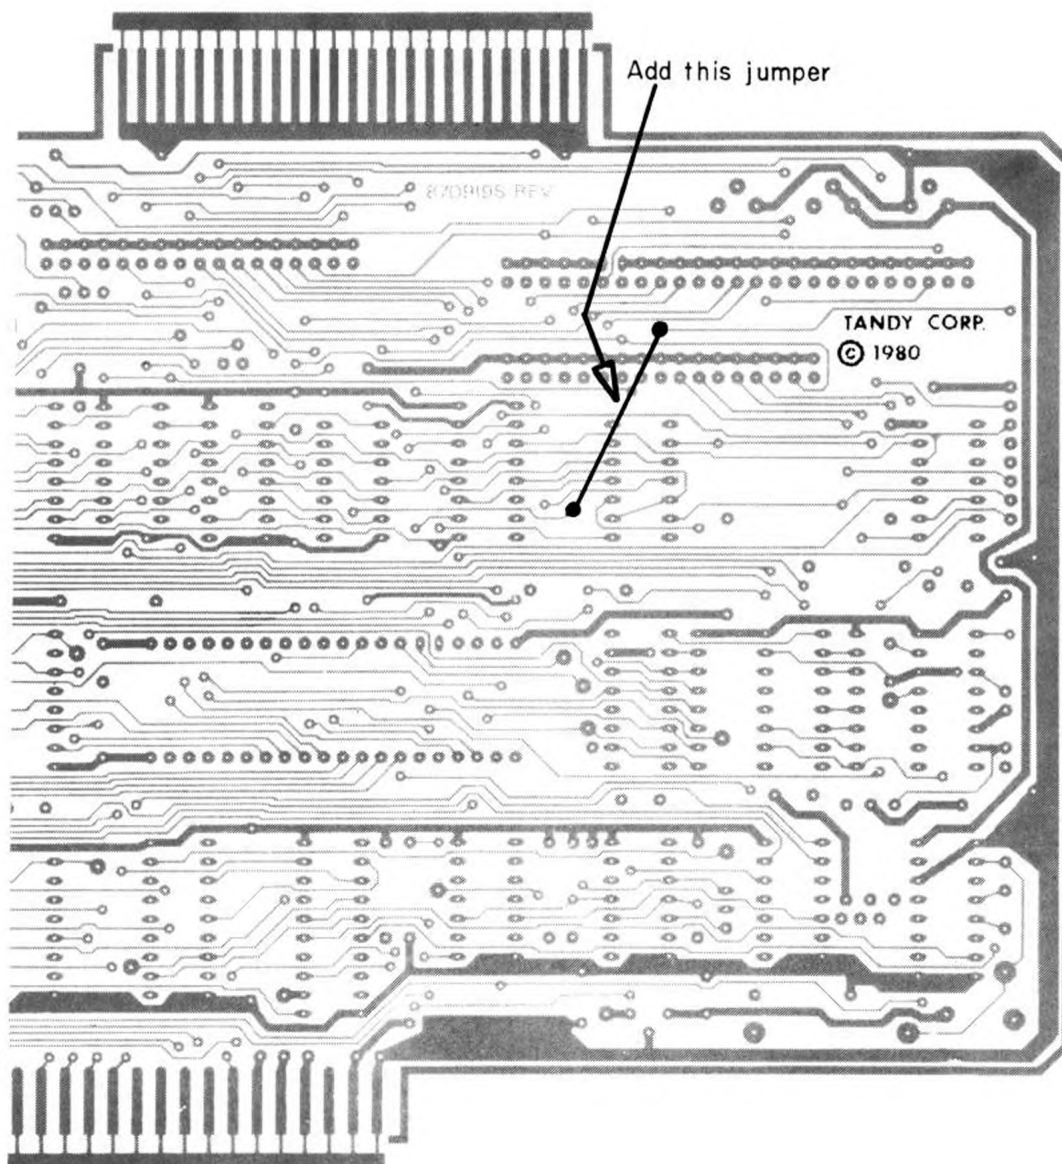

Figure 3
2. Turn the board over to the solder side and solder a jumper from the feedthru referenced in step 1 (this is the pullup resistor line) to the feedthru between U8 and U9 that is closest to pin 8 and 9 of U8. This feedthru is the Head Load external signal external signal and goes over to U10 on the solder side of the board (Refer to Figure 3).